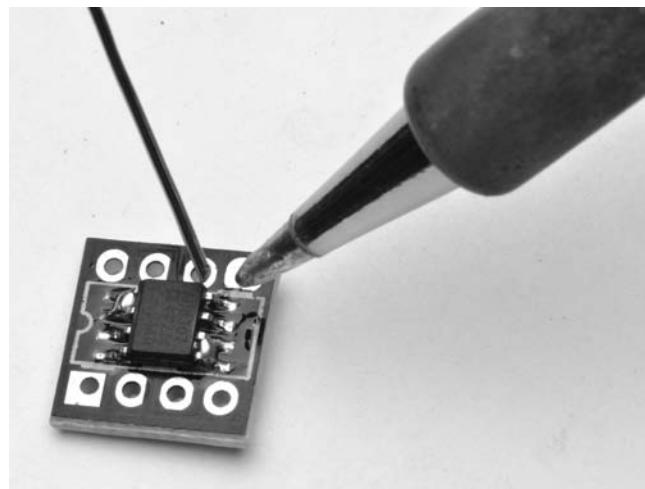

FIGURE 14-14 Slather the pads with solder. You don't need to be neat!
3. Apply solder liberally to the remaining pins starting opposite the pin you just soldered in Step 2 (Figure 14-14). Be messy at this point. No need to overdo it, but don't worry about solder bridges. We'll fix them in the next step.